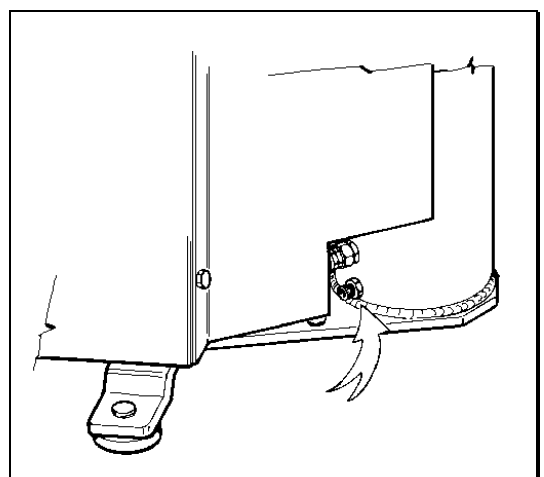

Fig.31
**K.** Drain water daily from the tank (Fig.31).